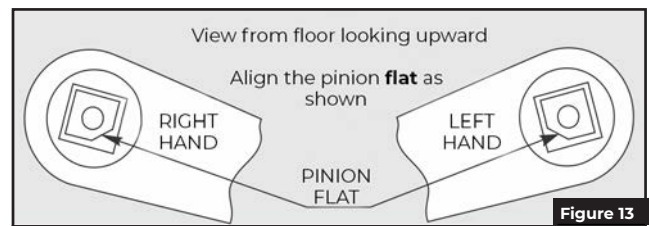

Figure 13
**NOTE:** Pinion flat should be aligned as shown. (Figure 13)